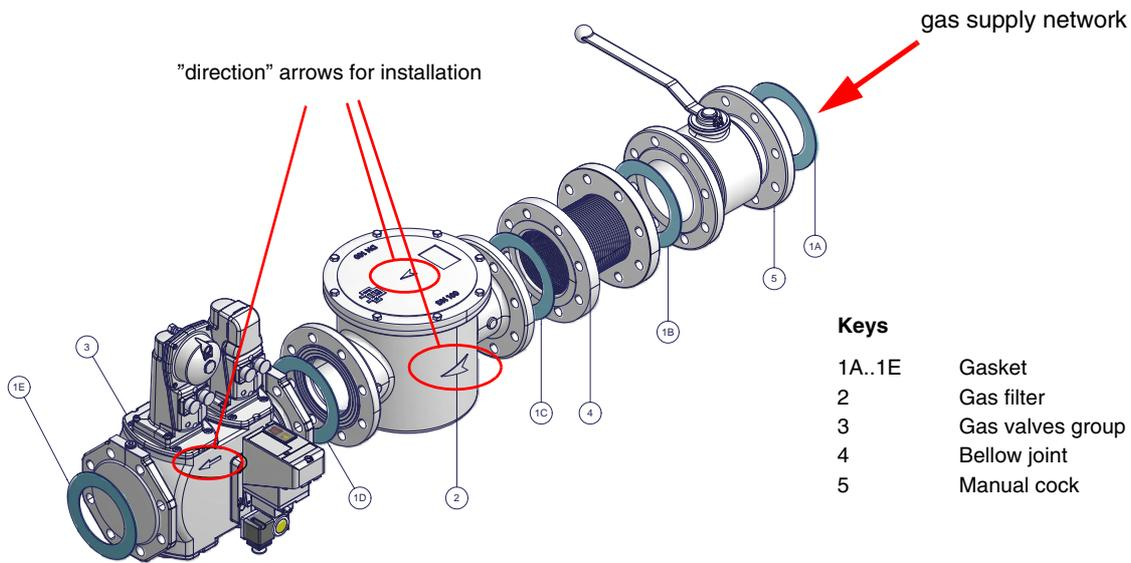

Fig. 3 - Example of gas train
- 1-b) in case of flanged joints: place a gasket (no. 1A..1E - Fig. 3) between the elements
ATTENTION: once the gas train is mounted according to the diagram on Fig. 3, the gas proving test must be performed, according to the procedure set by the laws in force.
⚠ ATTENTION: once the gas train is mounted according to the diagram on Fig. 3, the gas proving test must be performed, according to the procedure set by the laws in force.